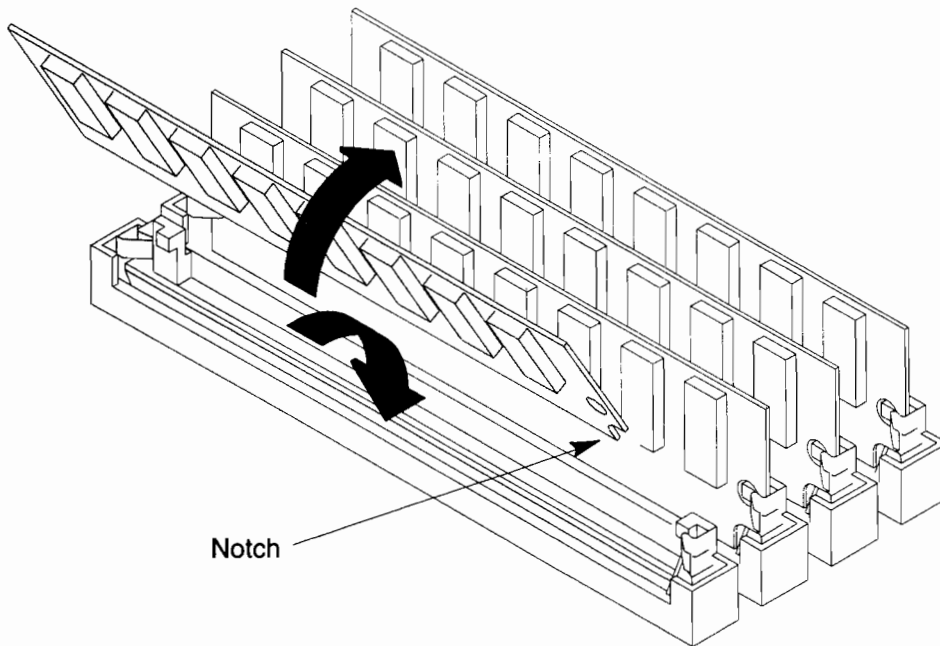

Figure B-9. Installing Memory Boards
3. Install a new memory board with its top edge tilted toward the left side of the system unit. Note that the memory board is notched on one end to fit the keyed connector. Press firmly on the memory board to ensure that it is fully seated. Snap the board into place by moving it to a vertical position. Its ends snap into the connector's spring clips. Figure B-9 shows how to install a memory board.